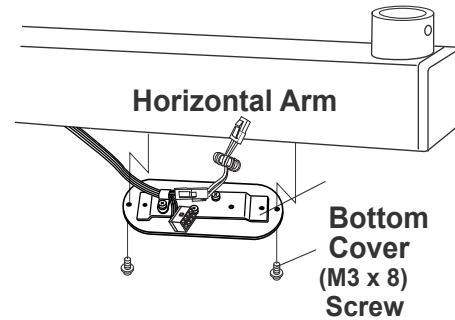

Fig.3-5 Horizontal Arm Bottom Cover
2. Remove two (M3 x 8mm) screws from the underside of the horizontal arm to open the bottom cover. (**Fig.3-5**)
6. Re-attach the bottom cover to the horizontal arm with two screws. (**Fig.3-5**)